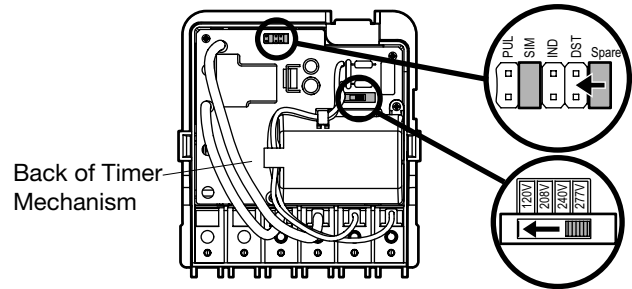

FIG. 2 Setting the Voltage and Disabling DST
2. Set the voltage selector for the desired input voltage. The time switch is shipped with voltage set for 277 VAC. **To operate at 120, 208 or 240 VAC, move the selector switch to the desired setting as marked on the circuit board.** See FIG. 2.
3. The timer is shipped with DST (Daylight Saving Time) enabled. To disable DST, move the jumper from Spare to DST. See FIG. 2.